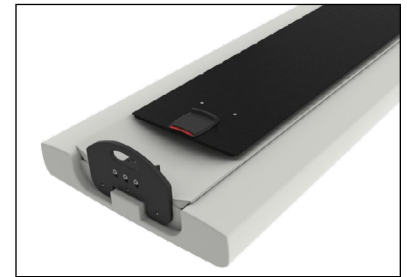

Fig. 6
- Slide the CT Overlay away from the foot end (Fig. 6).